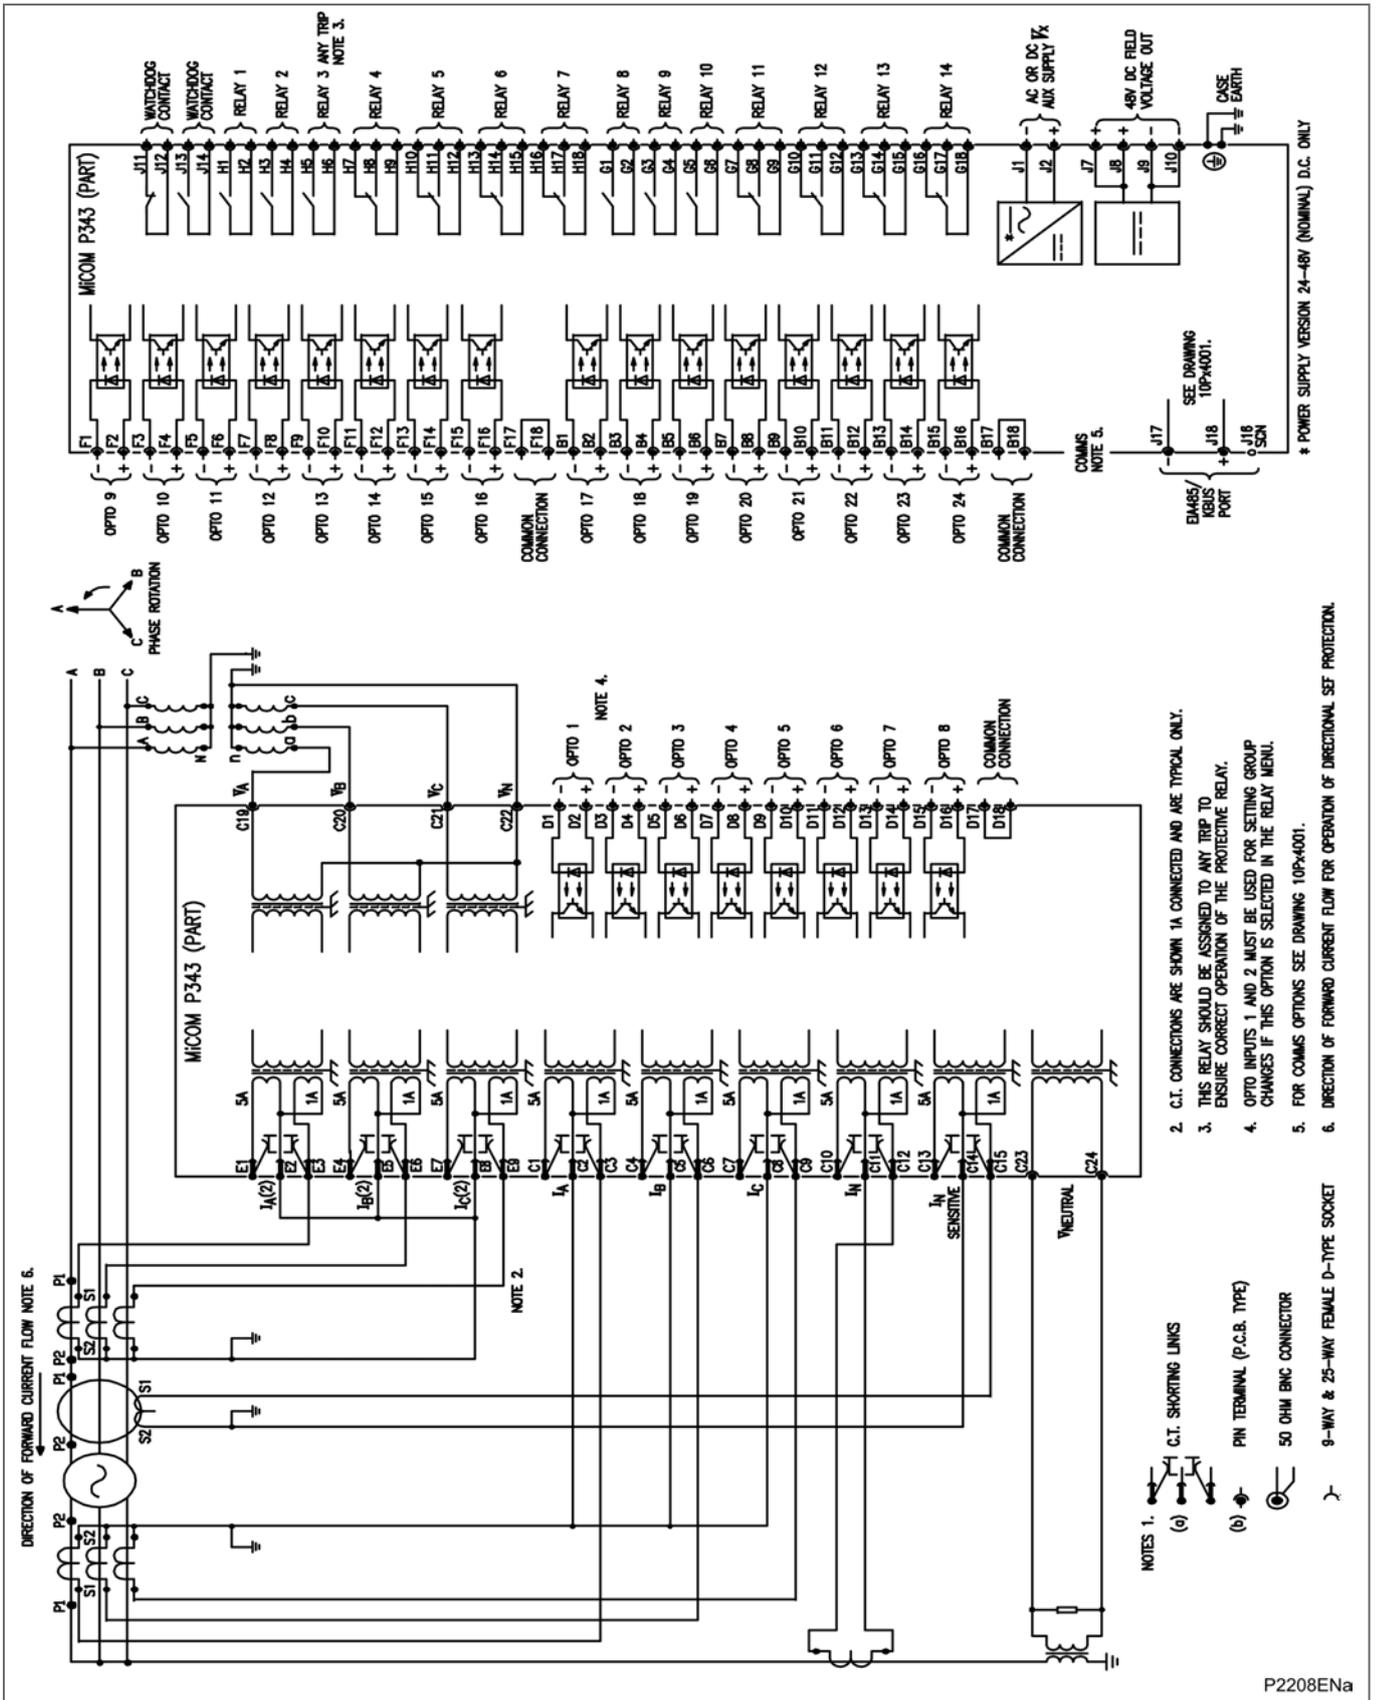

Figure 60 - P343 (60TE) with biased differential (24 I/P & 14 O/P)
- Figure 60 - P343 (60TE) with biased differential (24 I/P & 14 O/P)